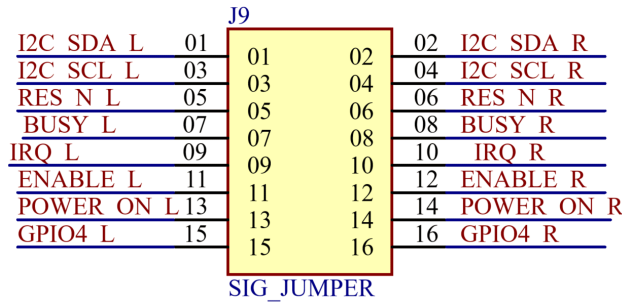

Figure 4. J9 Jumper Connector
5. The J9 connector connects the right-side Pmod to left-side Pmod. Depending on the application, connect the J9 connector pins (Figure 4).